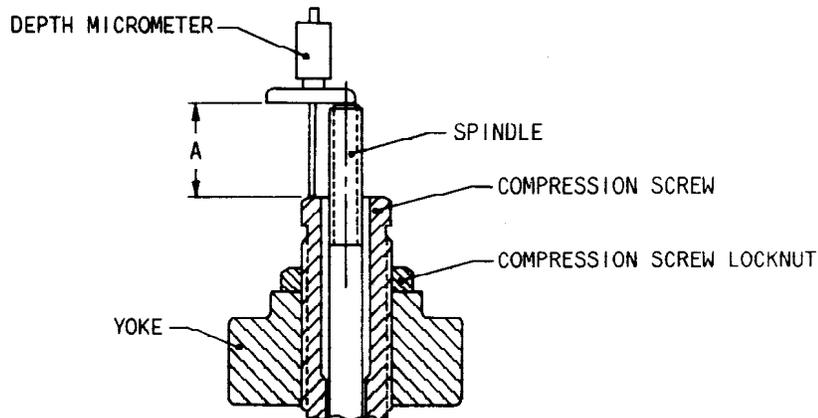

FIGURE 11
4. Refer to Figure 11 (below), and measure and record Dimension A, as this information will be required to correctly re-assemble the valve.